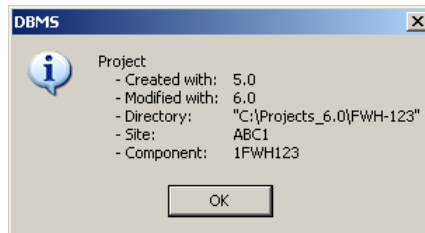

Figure 58. Help | Project Info Dialog
- **Help | Project Info** displays the dialog shown in Figure 58. The dialog contains information pertinent to the currently open project.